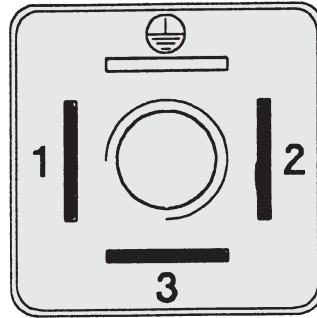

fig. 18
- 3) **common** contact, fig. 18.